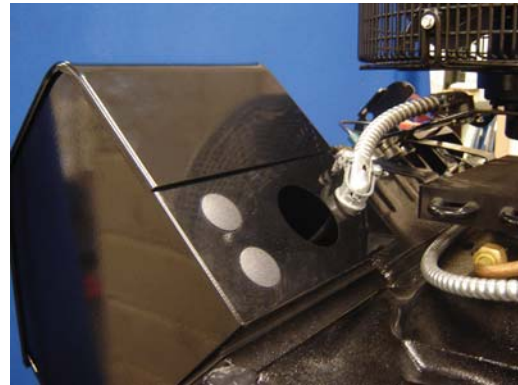

Figure 2.3 4D Fan Installation
- Refer to figures 2.3 and 2.4 for fan installation.